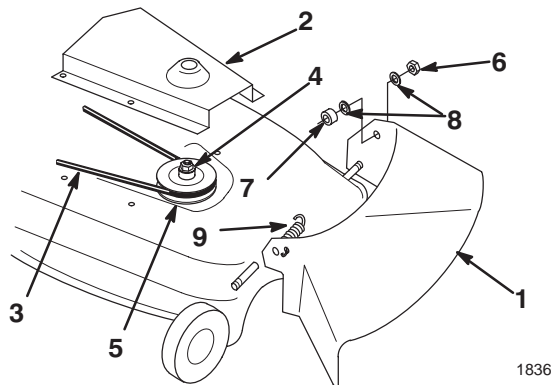

Figure 3
1. Remove the discharge chute from the mower (Fig. 3).
2. Remove the belt cover from the right side (Fig. 3).